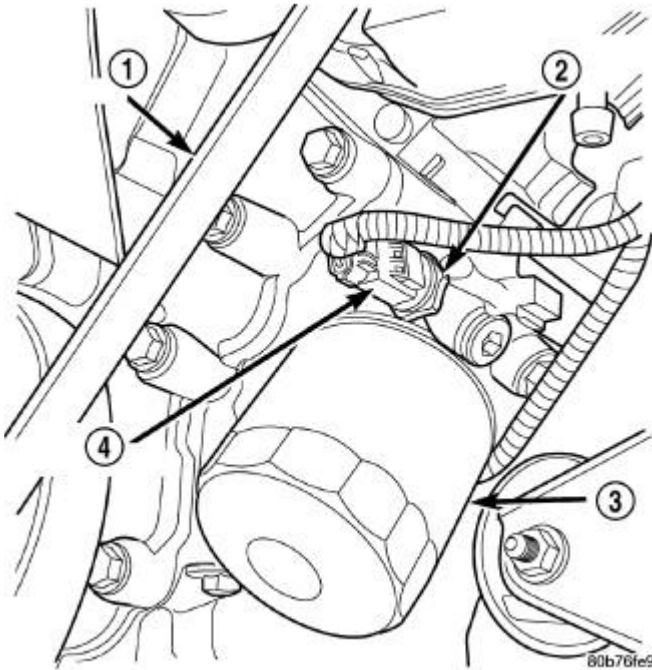

Fig. 183: Oil Pressure Sending Unit
1. Remove oil pressure sending unit and install gauge assembly C-3292A. See **Fig. 183**.